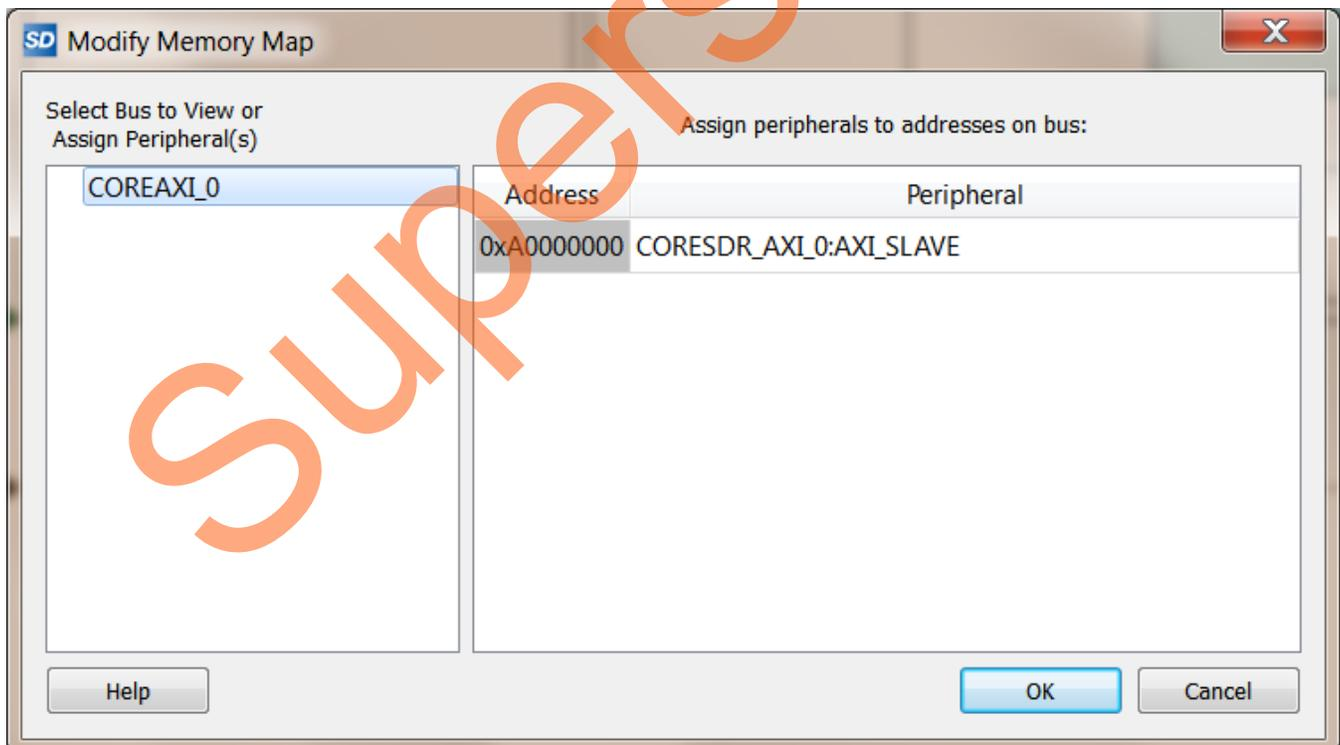

Figure 27. CORESDR_AXI_0 Memory Address
- After generation, you can see the Memory Map for the CORESDR_AXI_0 component. Right-click **Access_EXT_SDRAM** SmartDesign window and select **Modify Memory Map**. Figure 27 shows the resultant memory map. The starting address of the MDDR Space 0 is 0xa0000000 in the Cortex-M3 processor address space.